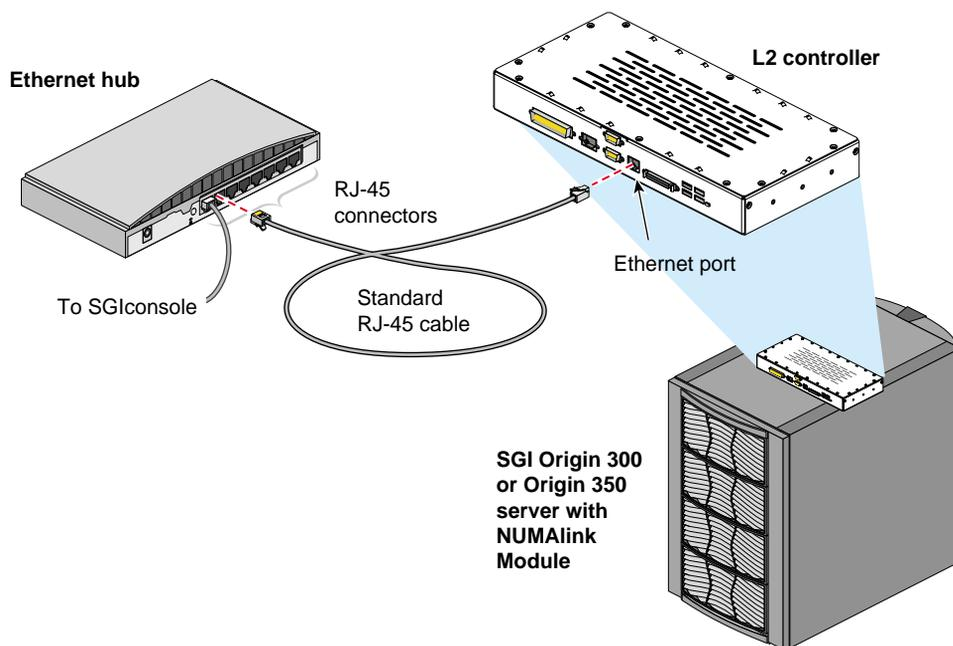

Figure 4-3 Connecting an Origin 300 or Origin 350 Server with NUMalink Module L2 Controller to an Ethernet Hub
- Connect one end of the standard RJ-45 cable to one of the RJ-45 jacks on the Ethernet hub. Connect the other RJ-45 connector end to the L2 controller's RJ-45 Ethernet jack. See Figure 4-3.